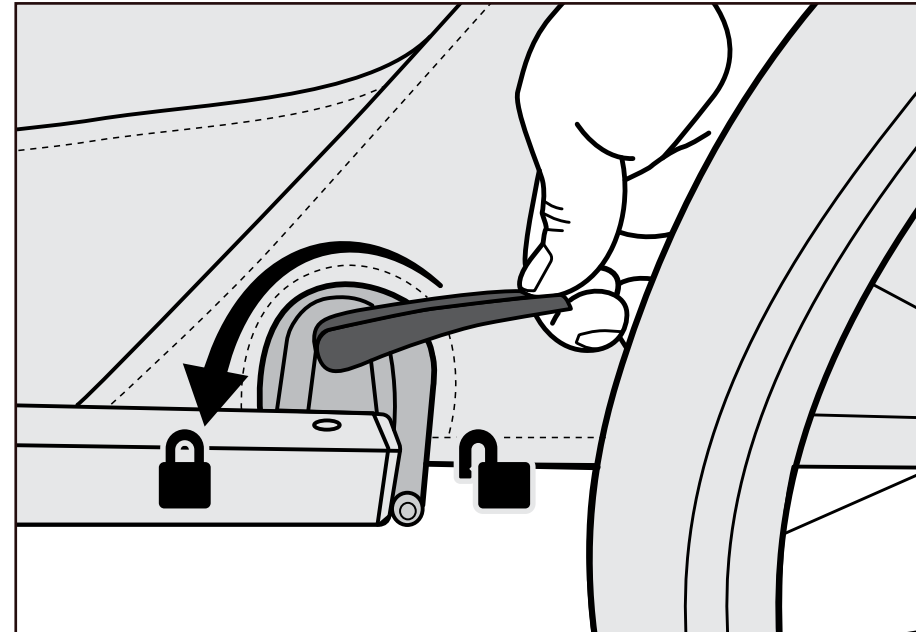

Figure 13
2. Rotate the red parking brake lever so that it points towards the front of the trailer (Figure 13). The trailer may need to rotate forward slightly for the brake to engage, and the lever to fully rotate.